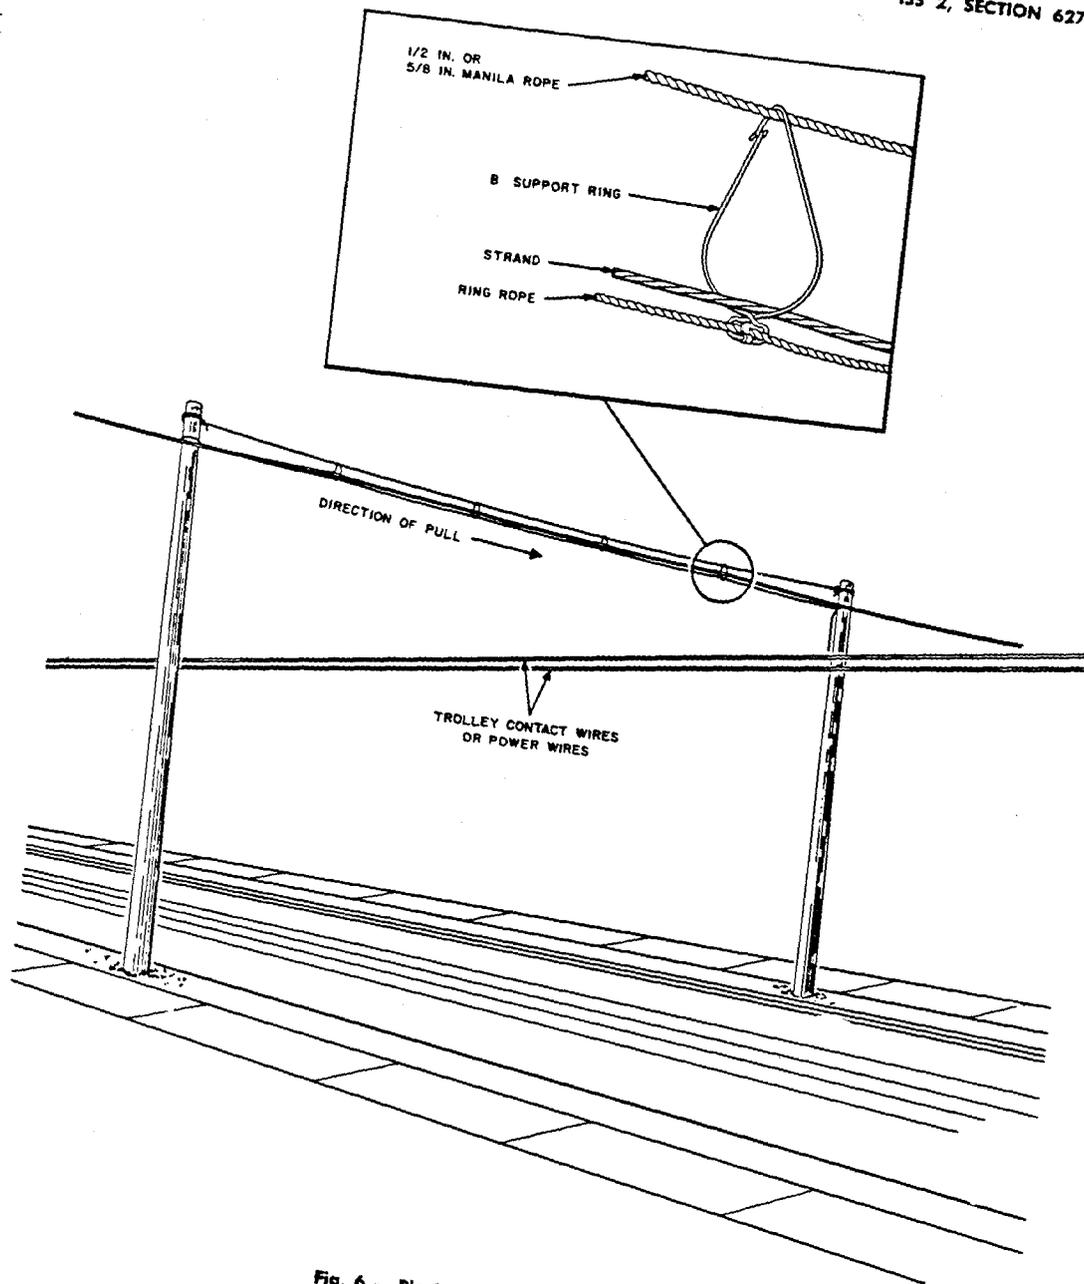

Fig. 6 — Placing Strand over Power Wires
↗ (8) Attach the strand to the pulling line and pull the strand through the rings as shown in Fig. 6.